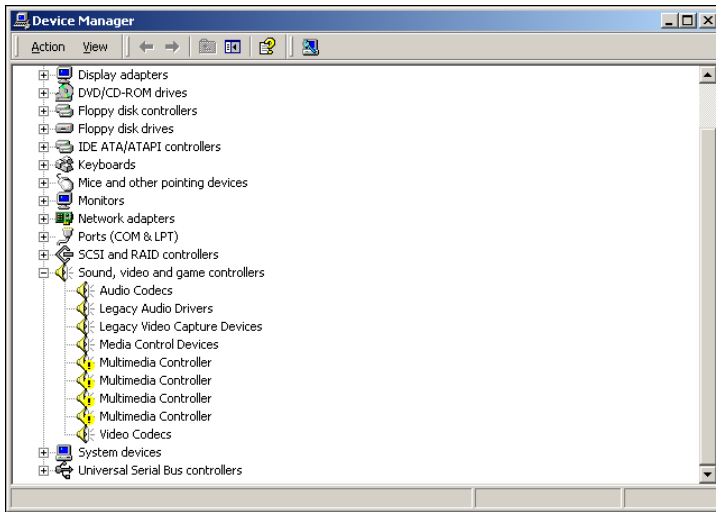

Figure 1-1. Initial Device Manager Screen
7. Click on Device Manager. A screen will appear, similar to that in Figure 1-1.